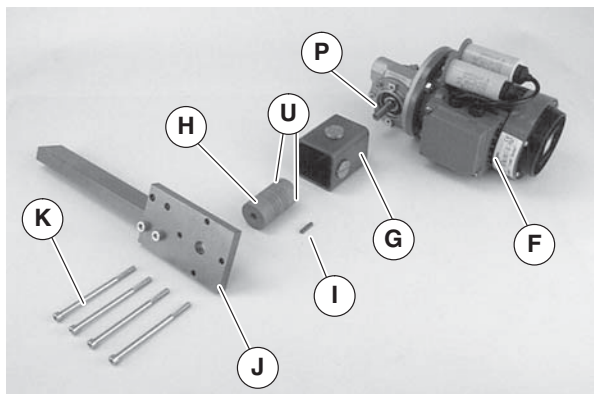

Figure 6
- Attach flex coupling (Figure 6, item H) to gearmotor shaft. Tighten set screws (U).
- Install key (Figure 6, item I) in gear reducer shaft (P).
- Attach guard tube (G) and gearmotor support assembly (J) to gearmotor assembly (F) with screws (K). Tighten screws (K) to 50 in-lb (5.6 Nm).